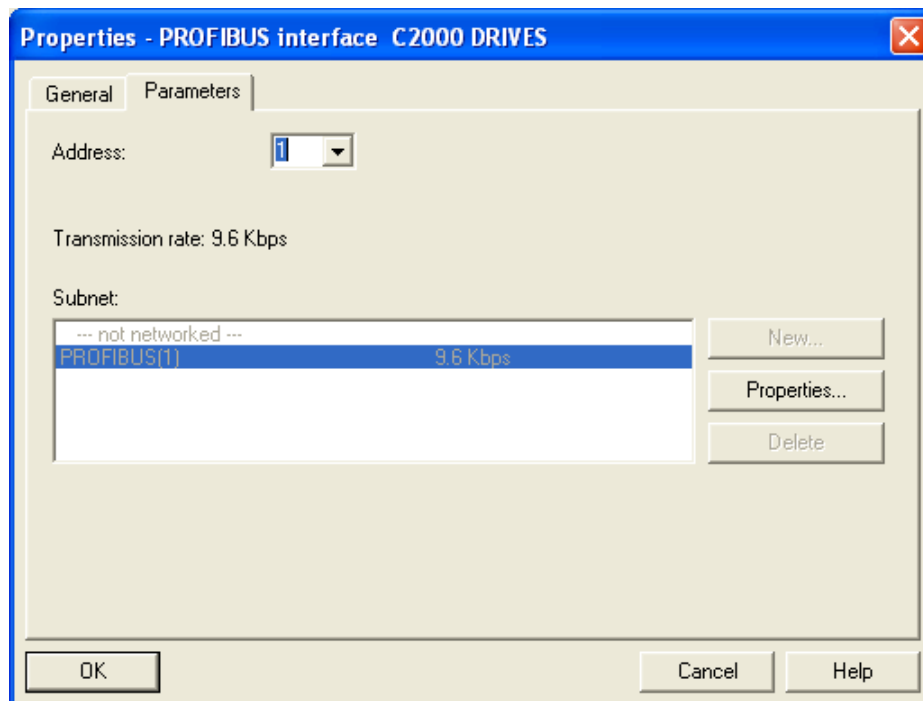

Figure 7-21
2. In the dialog box, select the address (decimal) of VFD-C2000 slave. The address has to be the same as the setting of parameter 09-70 for AC motor drive. Click “OK”. See Figure 7-21.